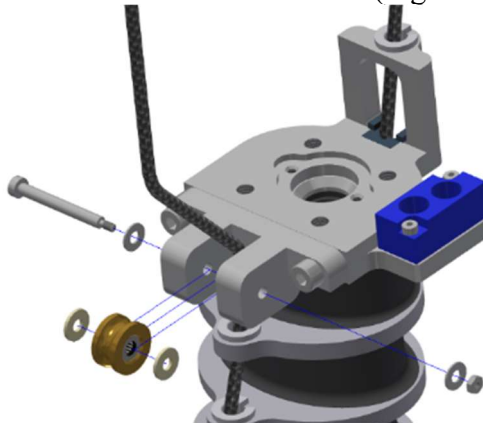

Figure 4-25. Remove rear pulley assembly from rear neck cable by removing the M3 X 25 X LG. SHSS SS with the M3 X 0.4 hex nut
- 4.2.15 Remove rear pulley assembly from rear neck cable by removing the M3 X 25 X LG. SHSS SS with the M3 X 0.4 hex nut (Figure 4-25).